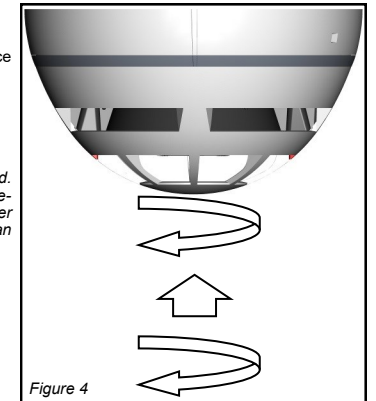

Figure 4
- 3) Continue to rotate clockwise until the detector has fully engaged in the adaptor base (figure 4).